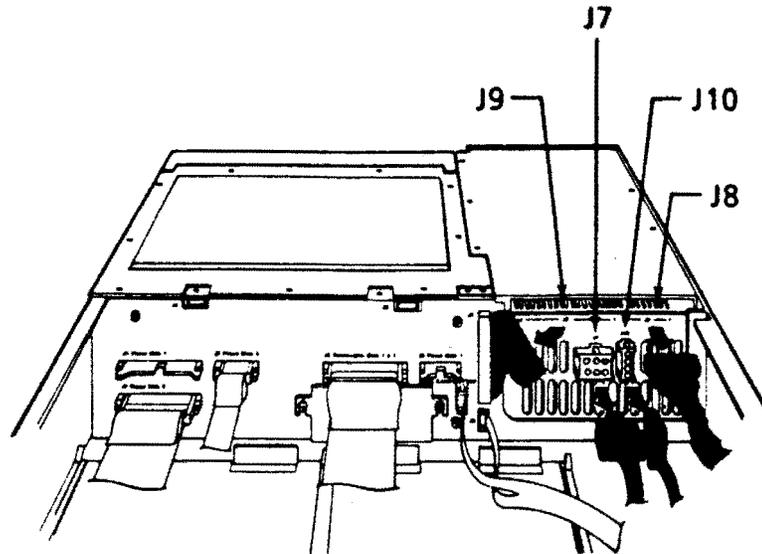

Figure 6-22: Power Supply Cable Removal
9. From the front of the power supply, disconnect (Figure 6-22):
4. On the front of the power supply, reconnect (Figure 6-22):